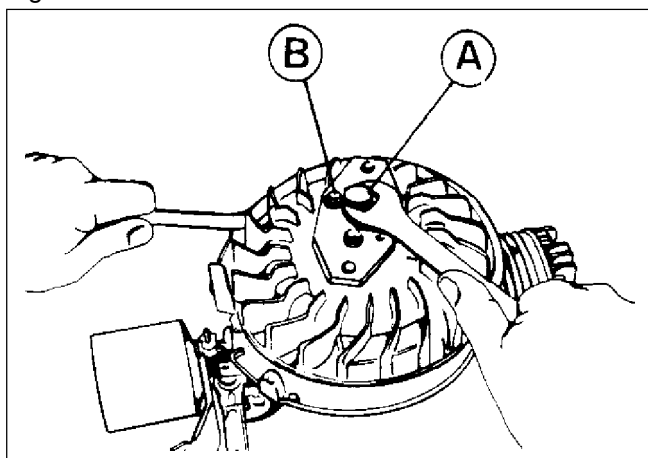

Fig. 17
- Place the tool **670306** as per Fig 17 locating the screw 'A' on to the crankshaft.
- The centre bolt (A) should not yet be tightened on the crankshaft.
- By using the tool 670306 and an 11/16 wrench the centre bolt can now be tightened (A). In this way the flywheel can be removed (Fig 17).